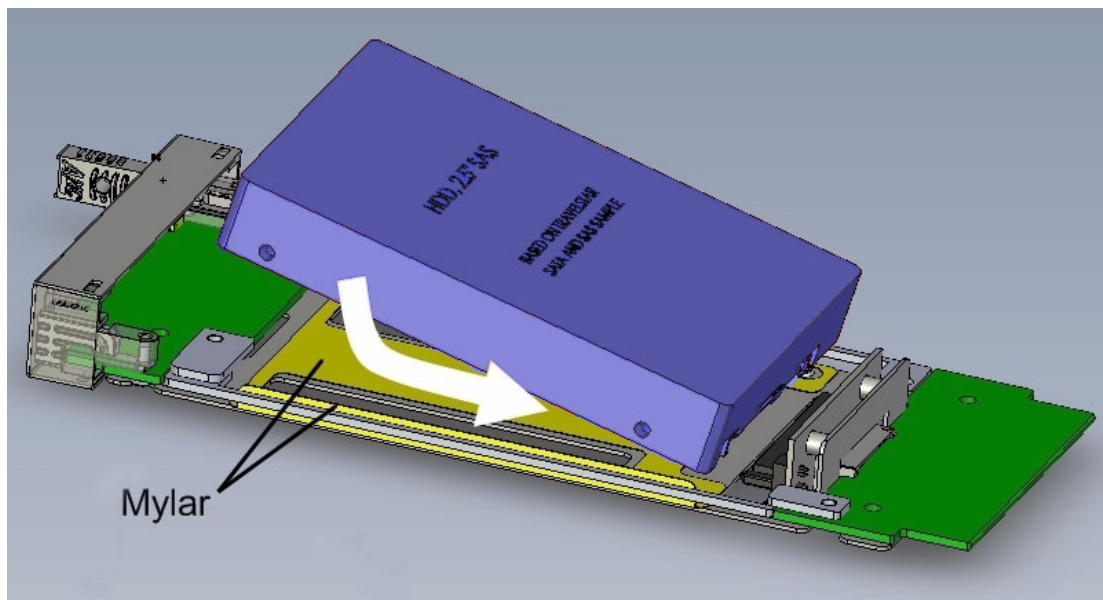

Figure 3.1 Aligning the HDD with the SAS/SATA connector
1. Position the hard disk drive above the metal bracket on the primary side of the MIC-5401 AMC module, with the HDD gently tilted towards the SAS/SATA connector on the AMC PCB. (see Figure 3.1).